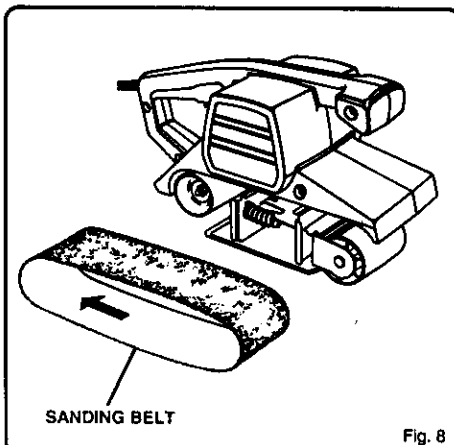

Fig. 8
- Install new sanding belt making sure arrow inside of belt is pointing in the direction of sander rotation. Sander rotation is clockwise when looking into open side of sander. See Figure 8.